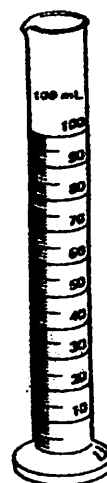

Figure 1-6
1. For approximate measurements of liquids, a graduated cylinder such as the one shown in Figure 1-6 is generally used. These cylinders are usually graduated in milliliters (mL). Such a graduated cylinder may read from 0 to 10 mL, 0 to 25 mL, or more, from bottom to top. It may also have a second row of graduations reading from top to bottom. Examine your cylinder for these markings.